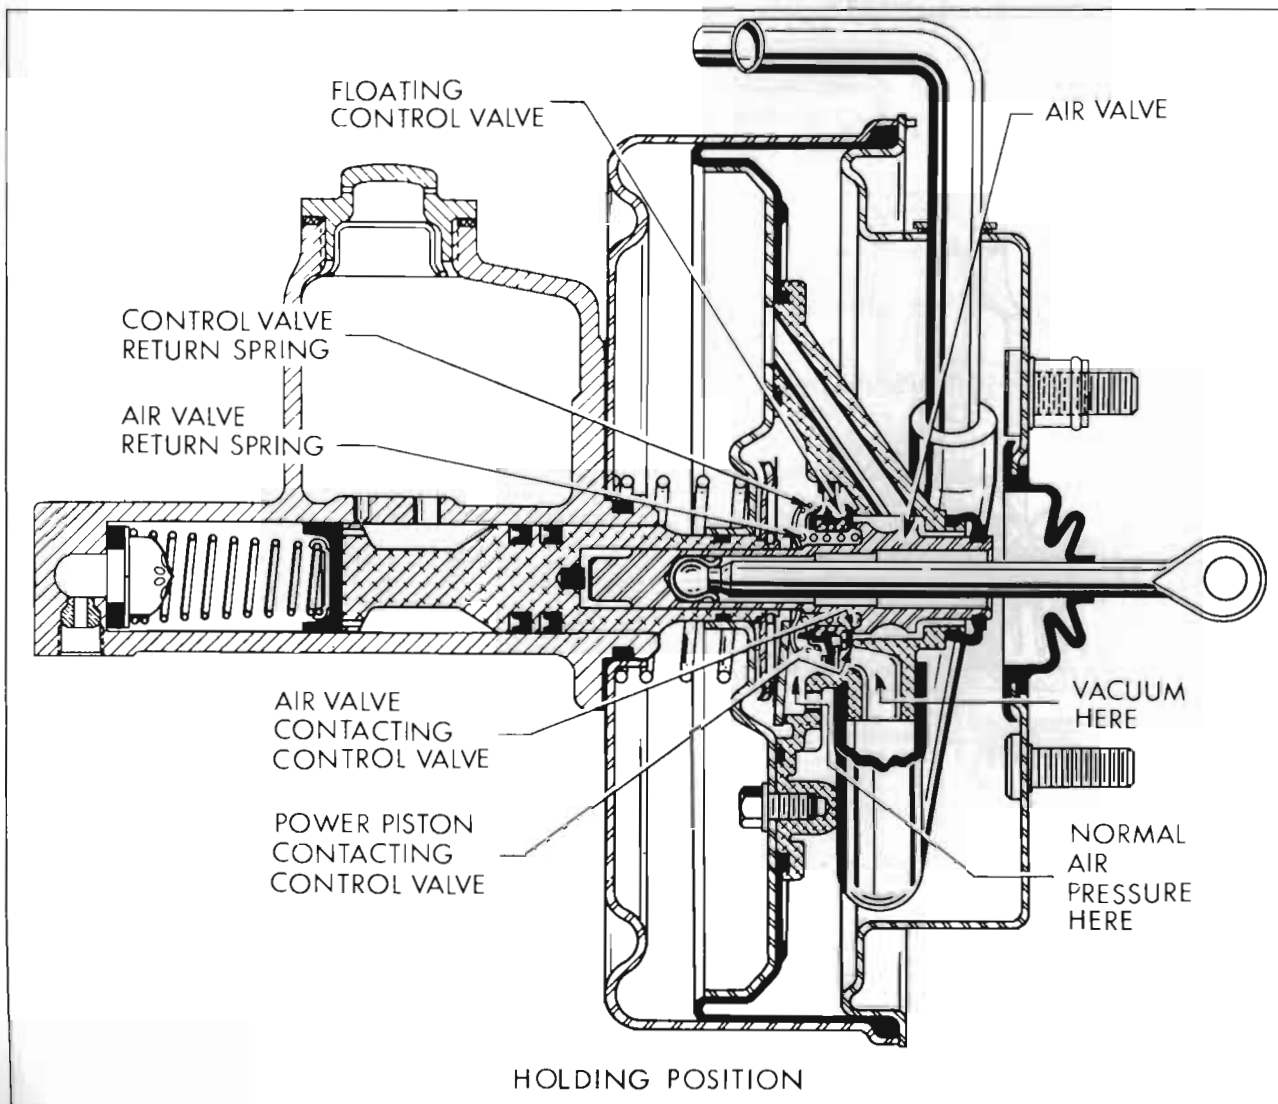

Figure 9-15—Holding
(4) *Holding*. When the desired brake apply pressure is reached and the brake pedal is held still, the air valve and floating control valve are also held motionless. The power piston, however, continues forward momentarily until its annular seat contacts the floating control valve. See Figure 9-15. At this point, both the air valve and the power piston are seated on the floating control valve so that the passage to the